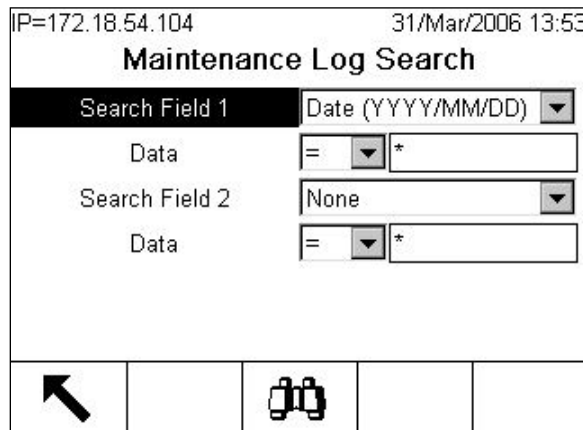

Figure C-35: Maintenance Log Search Screen
2. Press the VIEW TABLE softkey . To open the Maintenance Log Search screen (Figure C-35).